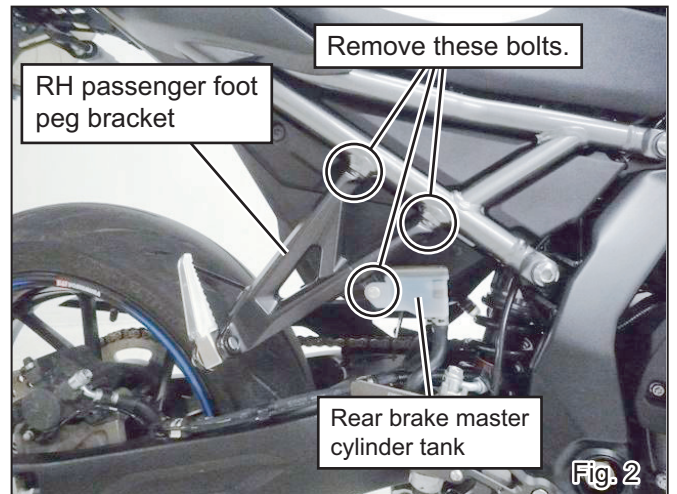

Fig. 2
- 4) Remove rear brake master cylinder tank from RH passenger foot peg bracket. Then remove passenger foot peg bracket from both sides (See Fig. 2).